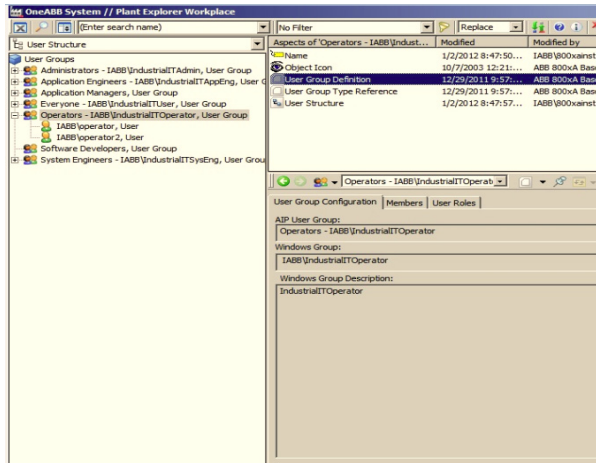

Figure 12. The User Group Definition Aspect of a User Group
2. Select the User Group Definition aspect of a User Group (see Figure 12).